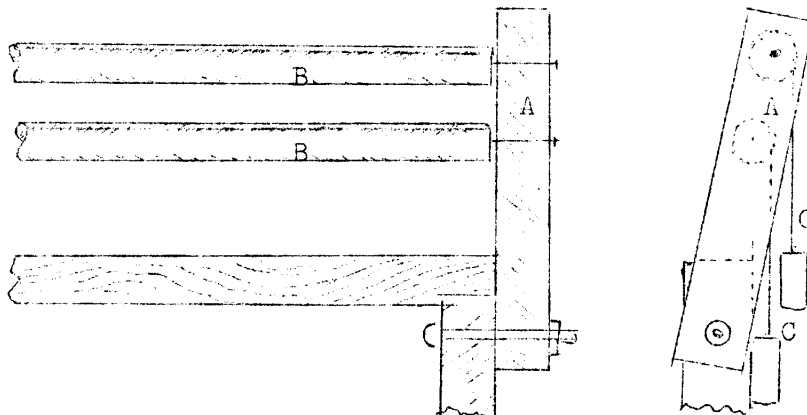

Fig.3
Equipment. The additional warp beams are the greatest problem, but fortunately one which can be solved at home if one has a few simple tools. The pile warp has hardly any tension therefore there is no need to make elaborate brakes, releases etc. The contraction shown in fig.3 will be quite satisfactory. Two flat pieces of wood (A) about 1" x 2" x 12" are bolted to the sides of the loom frame. Each of them has two holes to support the beams. The latter (B) are simply broom sticks or dowels 1" in diameter, and of such length as to fit exactly between the two supports. A nail driven in the center of each end of the dowels and passing through one of the holes in the supports will act as a shaft on which the beam will turn. As a brake we can use a piece of string (C) tied to the loom frame and wound around the beam with a weight hanging at the other end of the string.